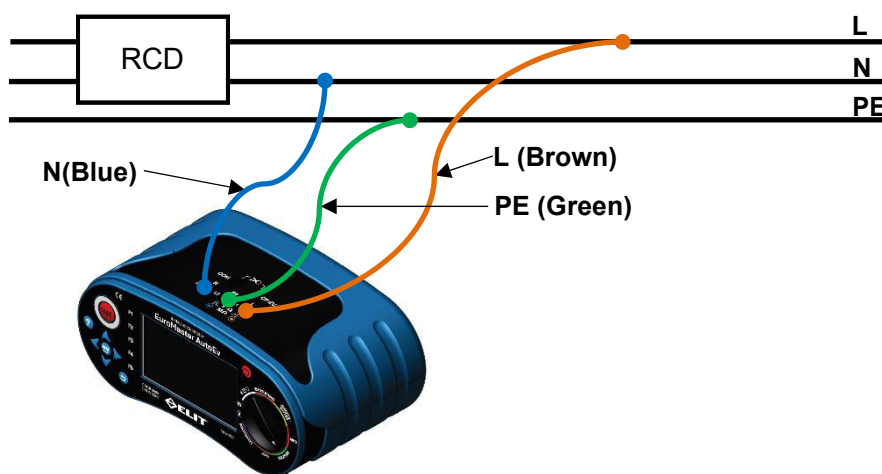

Figure 6.6.1 RCD Connection.
- III. Connect the test leads as shown in Figure 6.6.1.
- Connect the test leads as shown in Figure 6.6.1.